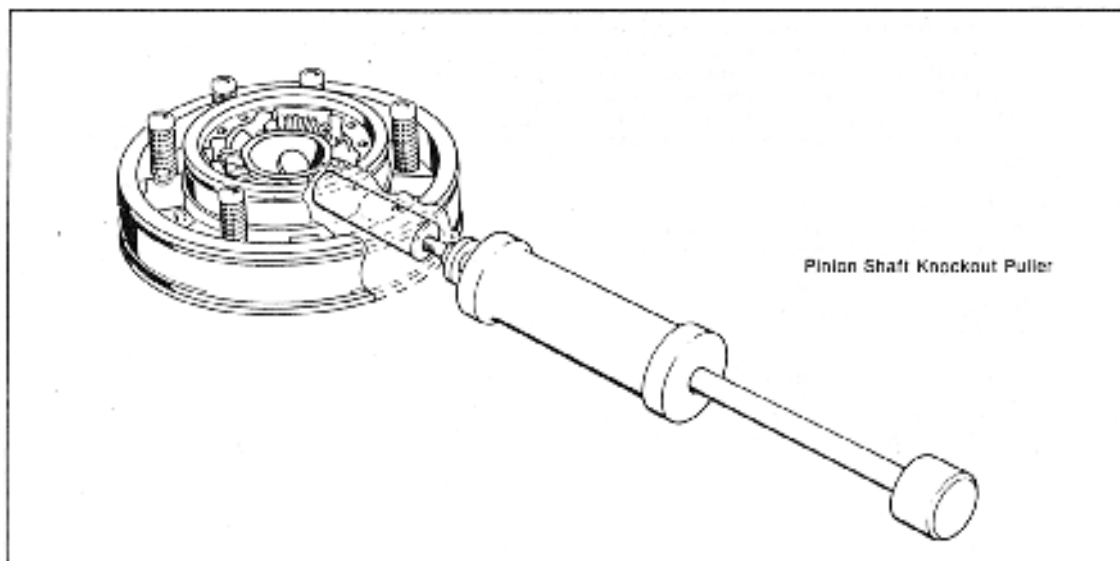

Figure 22. Removal of Pinion Shaft from Gear Carrier.
7. Remove capscrews and locknuts securing pinion shafts in bevel gear carrier and remove bevel pinion shaft with puller (See special tool No. 1-90008-0000, pinion shaft knockout puller). Refer to fig.22
carrier bore making sure holes are in line (See fig.22).